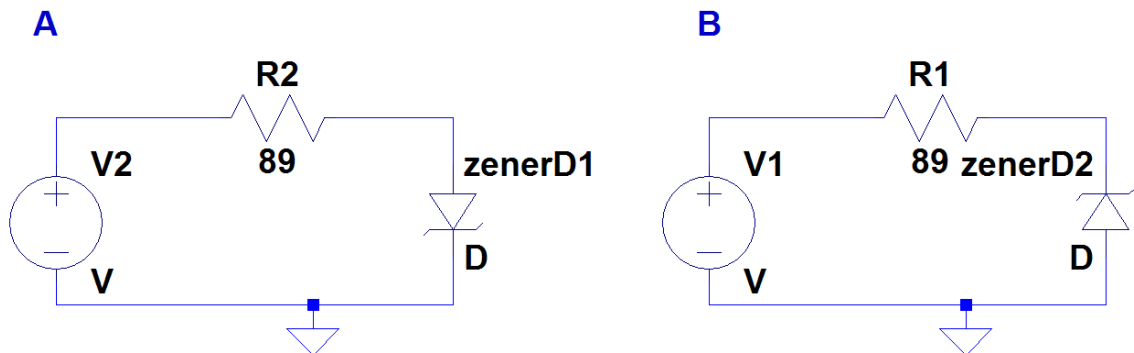

Figure 6.2 Zener Characteristics Circuits with the diode A: forward biased and B: reverse biased.
- a) Construct the circuit in Fig. 6.2.A. Then attach meters to measure the current through and voltage across the zener diode.
- c) Reverse the diode as shown in Fig. 6.2.B and determine the reverse characteristic, V_z , using the same meters and observing the same precautions.